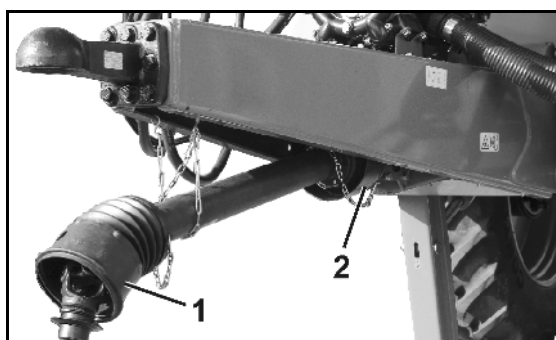

Fig. 13
- Fig. 13/...
(1) PTO shaft guard with supporting chains
(2) Machine PTO shaft guard